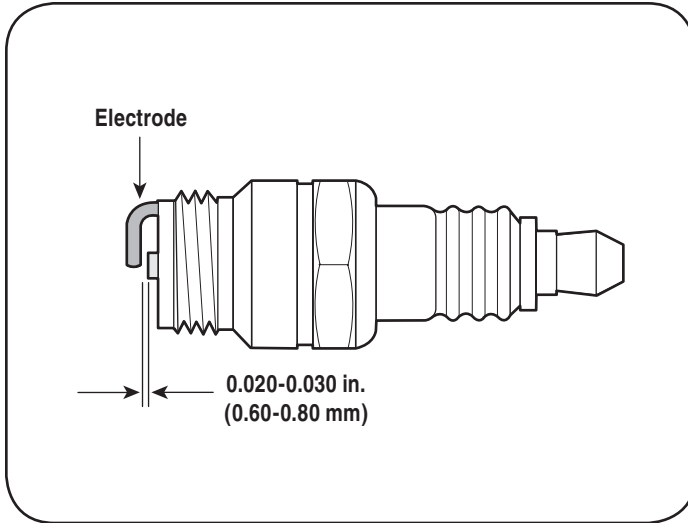

Figure 14
3. Measure the plug gap with a feeler gauge. Correct as necessary by bending side electrode. See Figure 14. The gap should be set to 0.020-0.030 inches (0.60-0.80 mm).